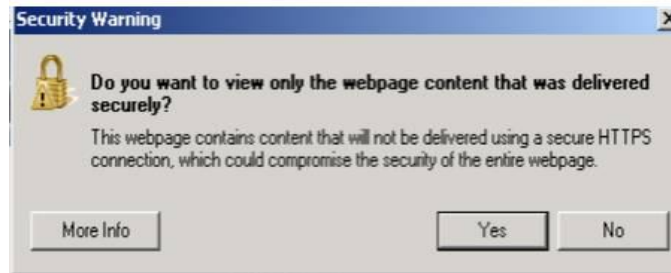

Fig. 2 Pop-up Security Message
3. If a security message appears “Do you want to view only the web page content that was delivered securely?” (Fig. 2). Press No to continue.